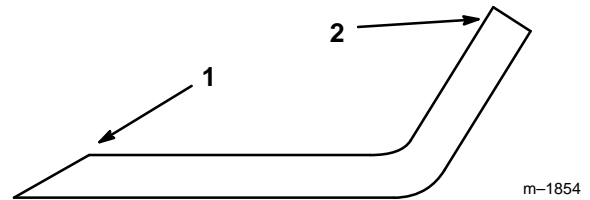
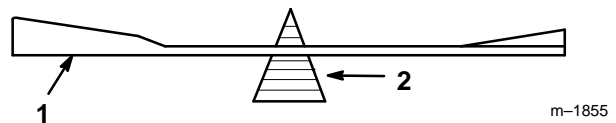

Figure 32
Figure 33
1. Use a file to sharpen the cutting edge at both ends of the blade (Fig. 32). Maintain the original angle. The blade retains its balance if the same amount of material is removed from both cutting edges.
2. Check the balance of the blade by putting it on a blade balancer (Fig. 33). If the blade stays in a horizontal position, the blade is balanced and can be used. If the blade is not balanced, file some metal off the end of the sail area only (Fig. 32). Repeat this procedure until the blade is balanced.